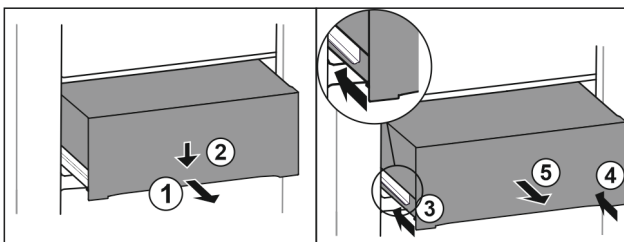

Fig. 221
- ▶ Pull out drawer half-way. *Fig. 221 (1)*
- ▶ Push the drawer down at the front. *Fig. 221 (2)*
- ▶ Push the left rail in by about 2 cm. *Fig. 221 (3)*
- ▶ Push the right rail in by about 2 cm. *Fig. 221 (4)*
- ▶ Remove drawer to the front. *Fig. 221 (5)*